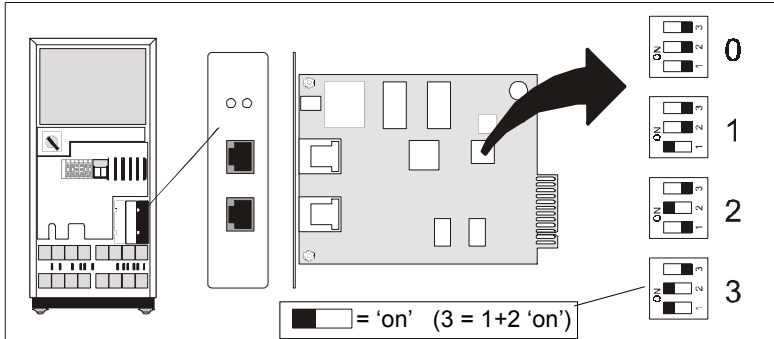

Figure 11. Appointing a unique number to each UPS in the system
5. The right option slot (14) at the rear of the unit contains the the RPA-card. Before the parallel system can be put into operation a unique number has to be appointed to each UPS in the system. This can be 0, 1, 2 or 3. Start with 0 for the first unit, 1 for the second, 2 for the third and 3 for the last unit:
- set the dipswitch to the appointed number (fig. 11)